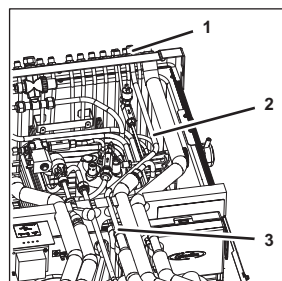

Figure 82
11. Disconnect Water-IN line 2 (Figure 82/2) from the connecting plate (Figure 82/1).
12. Disconnect Water-IN line 2 (Figure 82/2) from the push-in fitting (Figure 82/3).
25. Attach Water-IN line 2 (Figure 82/2) to the push-in fitting (Figure 82/3).
26. Attach Water-IN line 2 (Figure 82/2) to the connecting plate (Figure 82/1).